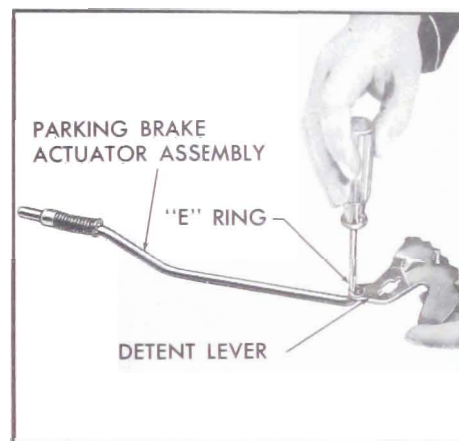

Figure 5-528
f. If necessary, remove the detent lever retaining "E" ring and detent lever. See Figure 5-528.